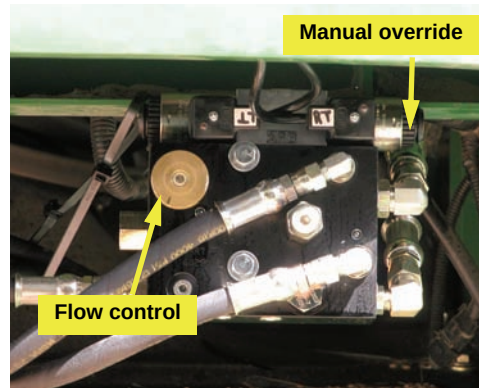

Figure 8: Steering block manual override and flow control button
- d. Adjust the automated steering oil flow control knob to a starting position of **2** turns from completely closed. To adjust the knob (Figure 8):
- e. The coils on the hydraulic steering block have manual push button overrides. Push either manual override to move the steering wheels all the way to one extreme (Figure 8).